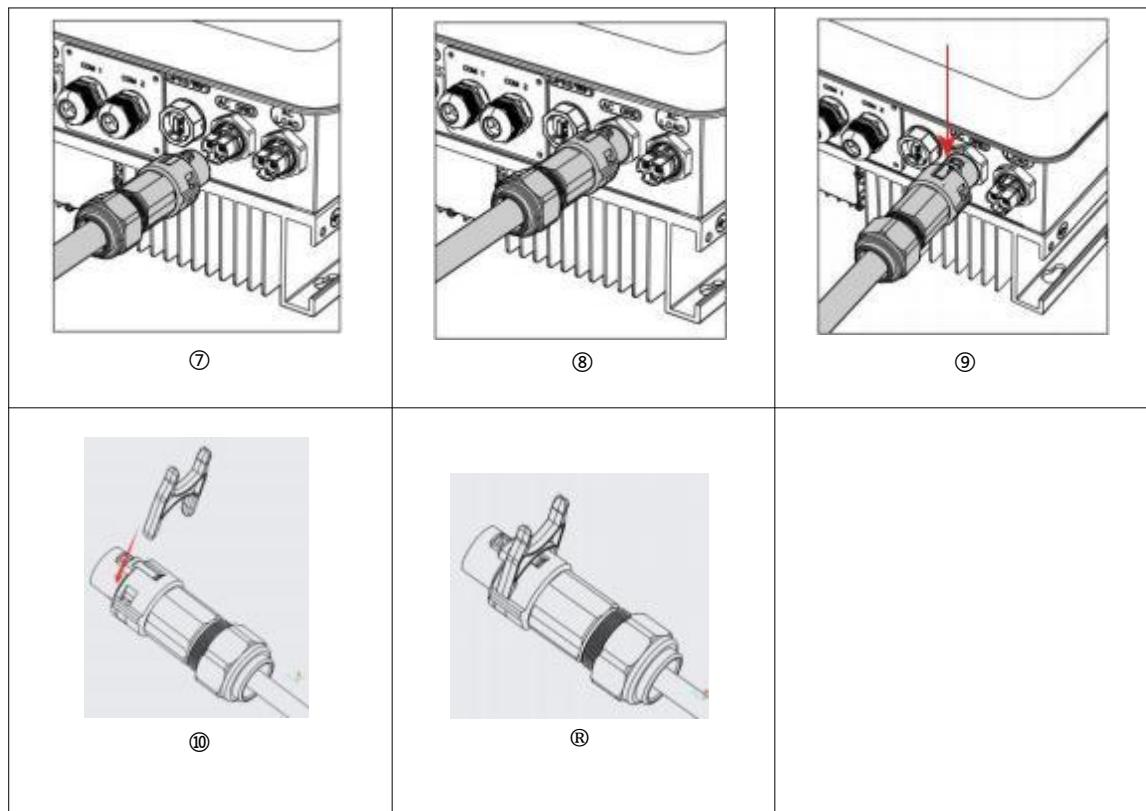

Figure 13: Connection of AC output cable
- Step 1: Select the appropriate type and specification of cable according to Table 4-3, and then strip the cable; the specific stripping length shall refer to Figure 13 ①; A: 30~50mm
- Step 2: Disassemble the AC terminal as shown in Figure 13 ②, and pass the stripped cable through the waterproof locking nut;
- Step 3: Lock the cable into the locking hole on the terminal as indicated, and fastened with a hexagon socket screwdriver, as shown in Figure 13 ③④;
- Step 4: Insert the output terminal, and when the “click” sound is heard, tighten the waterproof nut clockwise, as shown in Figure 13 ⑤⑥, to ensure that the cable is securely connected;
If it is required to remove the terminal from the equipment, it can be pulled out by a tool inserted in the direction as indicated by the arrow. The same tool can be used to remove the terminal, as shown in Figure 13 ⑩⑪.